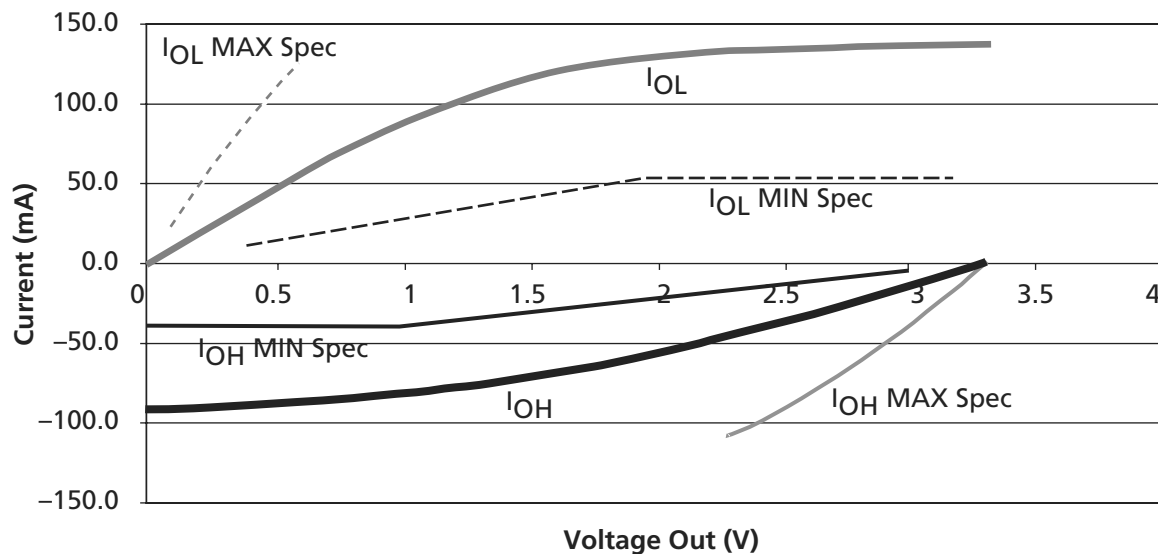

Figure 2-2 • 3.3 V PCI V/I Curve for SX-A Family
1. Refer to the *VII* curves in Figure 2-2 on page 2-7. Switching current characteristics for REQ# and GNT# are permitted to be one half of that specified here; i.e., half size output drivers may be used on these signals. This specification does not apply to CLK and RST#, which are system outputs. "Switching Current High" specifications are not relevant to SERR#, INTA#, INTB#, INTC#, and INTD#, which are open drain outputs.
2. Maximum current requirements must be met as drivers pull beyond the last step voltage. Equations defining these maximums (C and D) are provided with the respective diagrams in Figure 2-2 on page 2-7. The equation defined maximum should be met by design. In order to facilitate component testing, a maximum current test point is defined for each side of the output driver.
Figure 2-2 shows the 3.3 V PCI V/I curve and the minimum and maximum PCI drive characteristics of the SX-A family.